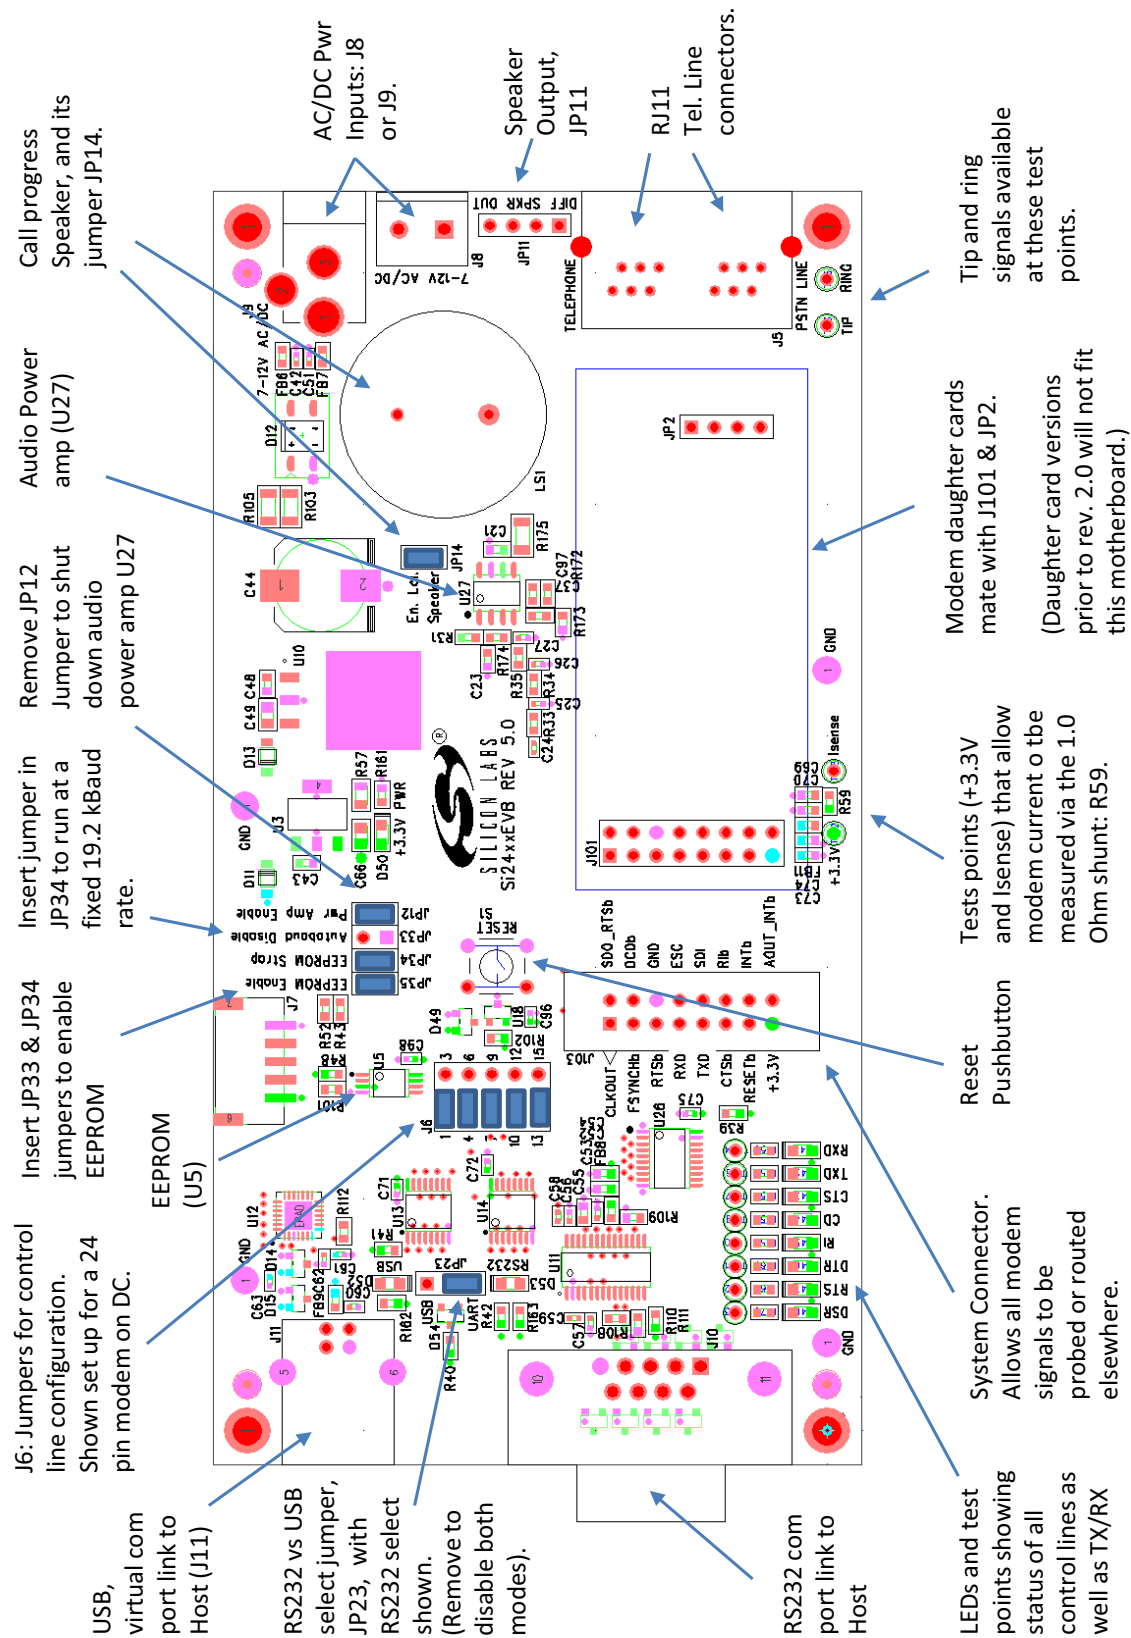
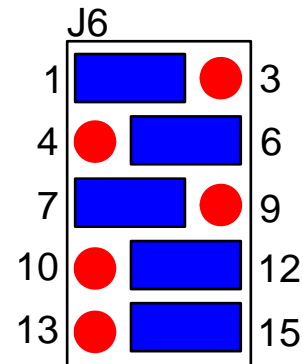

Figure 1. Default Motherboard Setup
Figure 3. Default J6 Setup for 16-Pin Modem Chips
1. Set jumpers according to Figure 1, but change J6 to the arrangement shown in Figure 3 if an FS ISOmodem package is used.
1. Set jumpers according to Figure 3, but change J6 to the arrangement shown in Figure 3 if an FS ISOmodem package is used.
Figure 1 shows the default motherboard setup for the FT package daughter card as well as the functions of connectors and jumpers.
To change to USB operation simply move the RS232 selection jumper on JP23 to the USB position as marked on the PCB and shown in Figure 1. When the USB vs UART settings are changed the appropriate indicator LED will light up on the EVB.